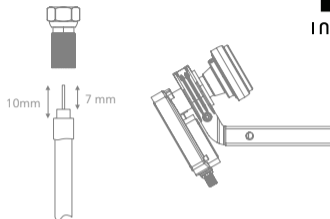

Fig. 4
2. Strip the cable insulation and screw the F-plug* onto the end of the cable (Fig. 4).